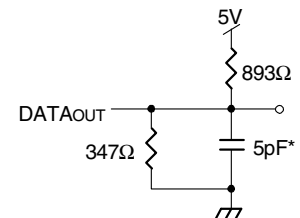

Figure 2. Output Test Load
1. Transition is measured 0mV from Low or High-Impedance voltage with the Output Test Load (Figure 2)
- Transition is measured 0mV from Low or High-impedance voltage with the Output Test Load (Figure 2).
7. Transition is measured 0mV from Low or High-impedance voltage with the Output Test Load (Figure 2). This parameter is guaranteed but is not production tested.